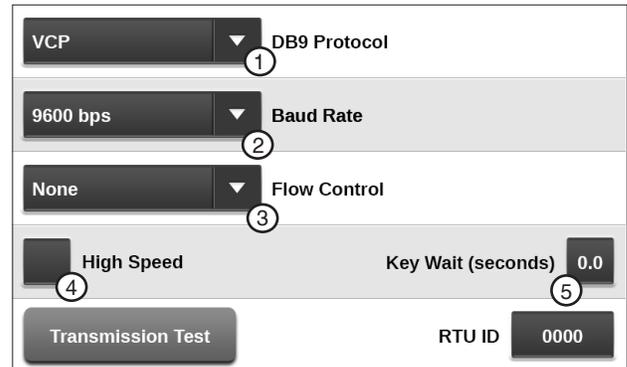

Figure 45-1 DB9 Comm Port Screen
To enable High Speed, check the High Speed checkbox. Refer to Figure 45-1.
1. Select the Key Wait field for the Comm Port. Refer to Figure 45-1.